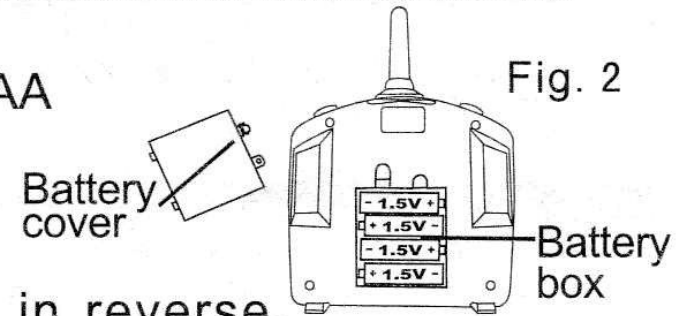

Fig. 2
2. Installation of transmitter as Fig. 2, to install 4 AA batteries (additional purchase) in right way